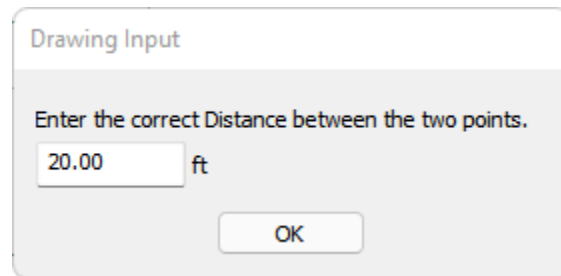

FIGURE 5-5
- Now move your mouse right and hover your mouse over the intersection of gridlines 1-B from the imported DWG file (not the Builder gridline). When the intersection icon appears at this location, left-click the mouse to set the second point of the calibration line. Once completed, the *Drawing Input* editor shown in **FIGURE 5-5** will open.